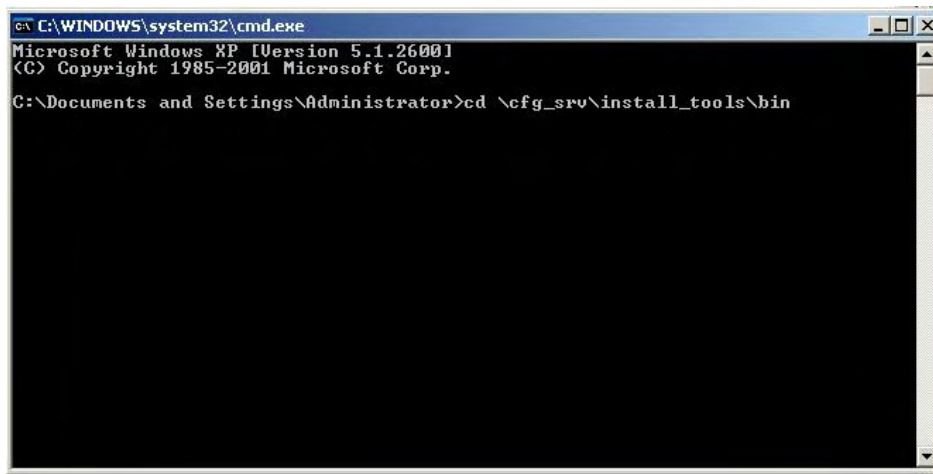

Figure 1-147. DOS Windows Install Folder
3. A "cmd.exe" command DOS window is displayed (Figure 1-147). Type **cd**_(space)**\cfg_srv\install_tools\bin**.